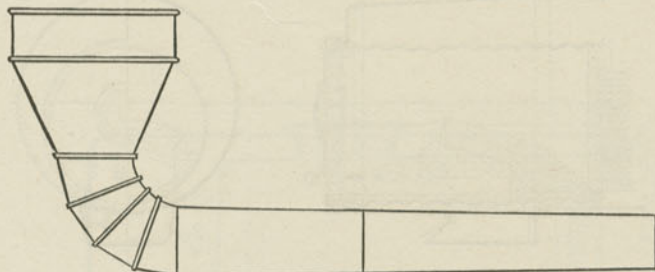

Fig. 304a. Sand Funnel for Flue Cleaning.
A. It is not done away with; provision is made to remove the deposit by a sort of sand blast; there being a funnel which can be inserted in the fire-door to force sand by means of a steam jet through the tube, driving the deposit out through the stack. (See Fig. 304a.)